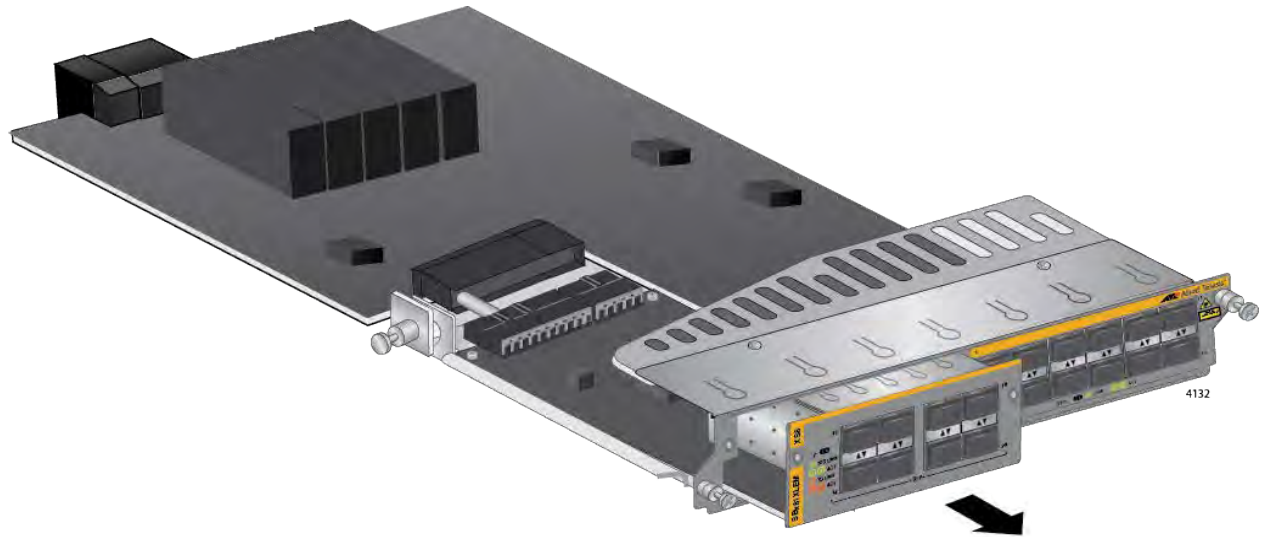

Figure 177. Sliding the Expansion Module from the AT-SBx81XLEM Line Card
6. Slide the expansion module from the line card. Refer to Figure 177 on page 288.